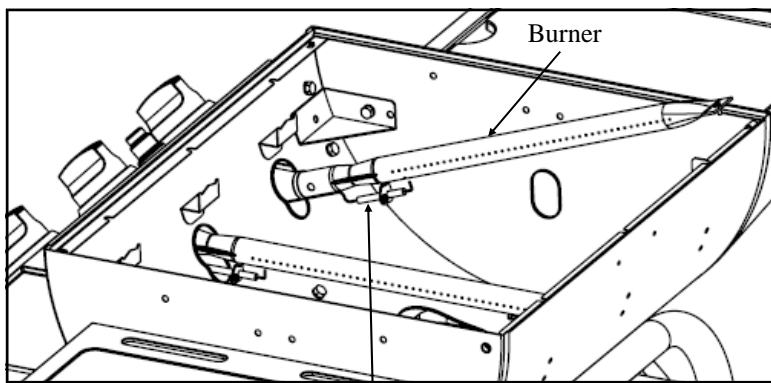
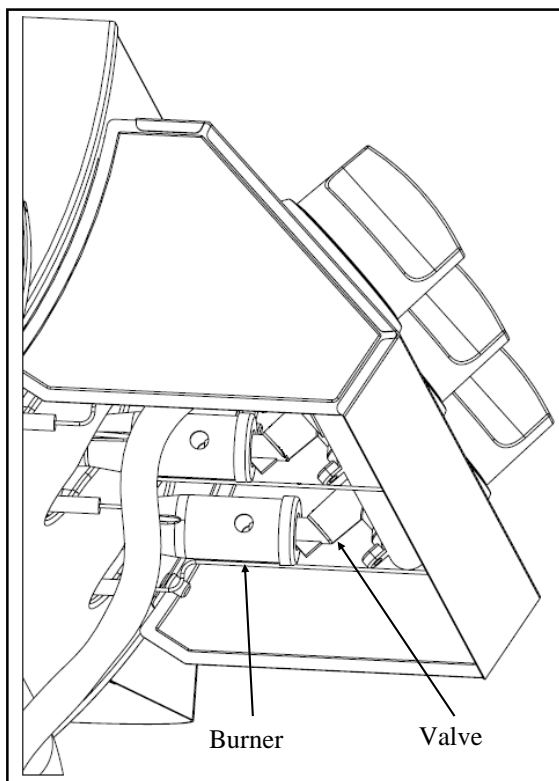

Figure 12A
Figure 12B
Step 12: Install the Burners into the Grill Body by inserting the **IGNITER WIRES** and Burners through the open holes at the front of the Grill Body from inside of the Grill Body, see figure 12A. (**NOTE: IGNITER MUST BE ON BOTTOM SIDE OF BURNER**). The **BURNER** with the longer wire goes on the right side of the **GRILL BODY**. Making sure that the **Valve** goes inside each burner, see figure 12B. Then secure the Burners to the Grill Body with the screws provided, see figure 12C.